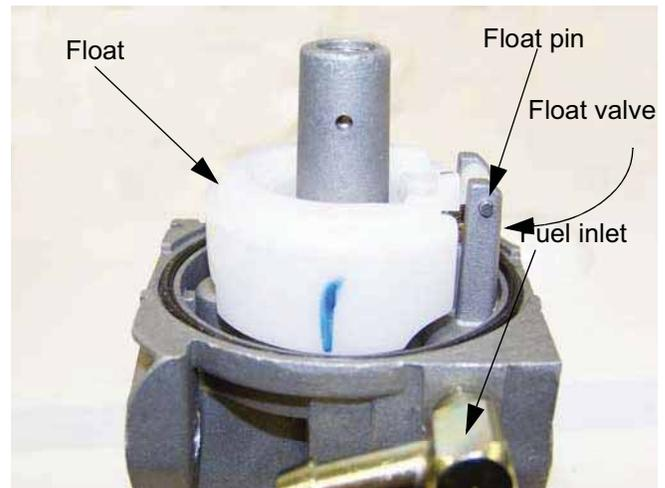

Figure 4.29
4. When inverted, the float should rest in a level position. See Figure 4.29.